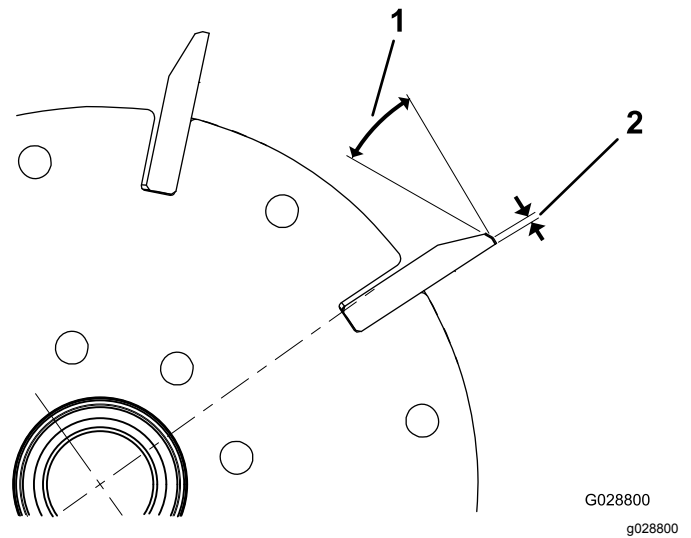

Figure 24
1. Apply a 30 degree relief grind on all reel blades until the land width is 1.3 mm (0.050 inch) wide (Figure 24).